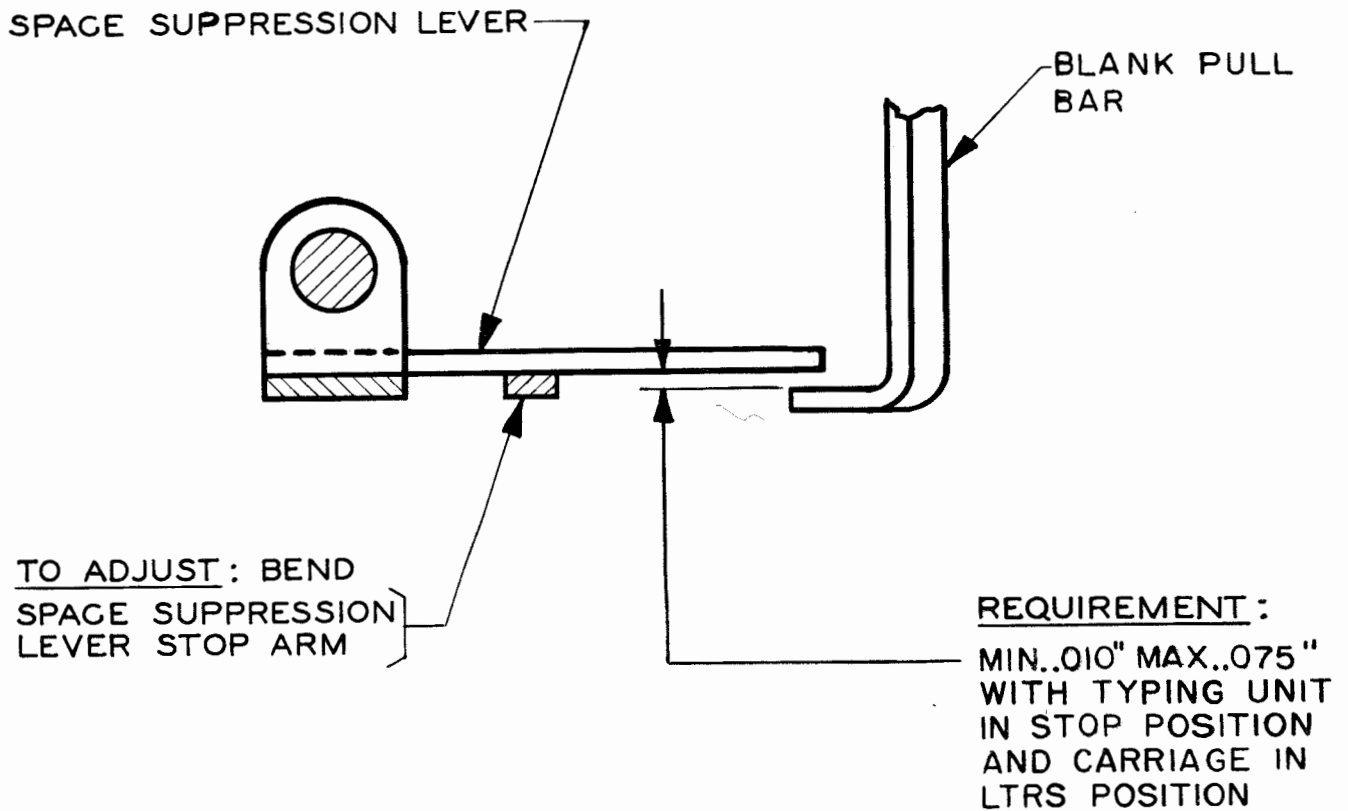

Figure 9
4.02 Space Suppression Lever Stop-arm: (See Figure 9.)